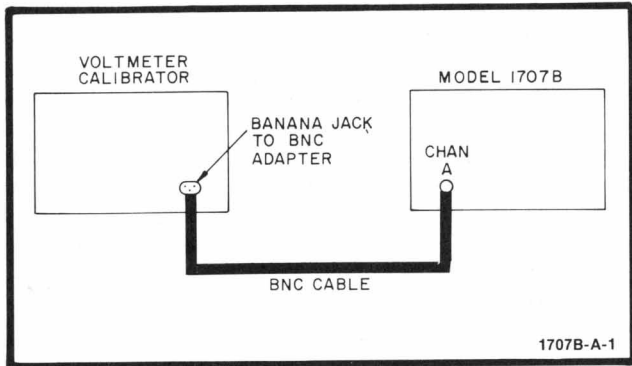

Figure 5-1. Deflection Factor Test Setup
- a. Connect instruments as shown in figure 5-1.